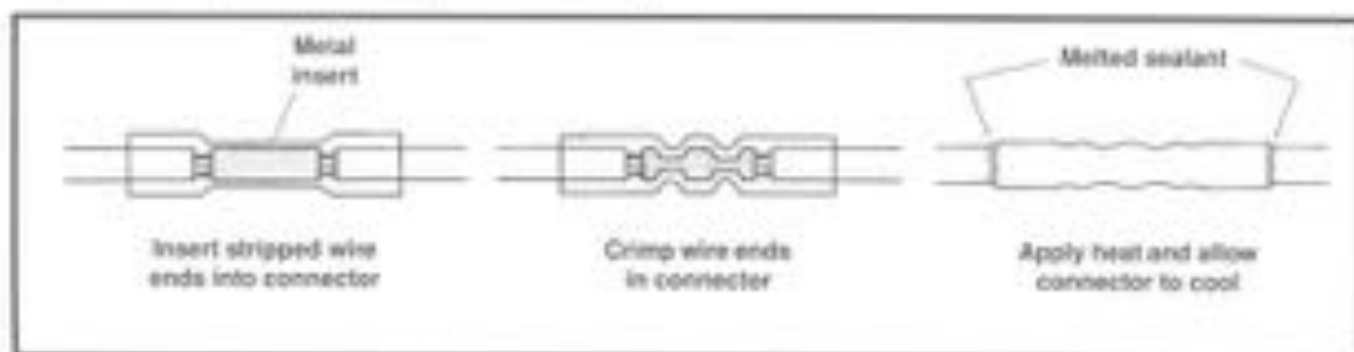

Figure 7-108 Installing Sealed Butt Connectors
2. Insert wires into opposite ends of the butt splice connector (see Figure 7-108). Feed the wires into the connector until the stripped ends are housed within the metal insert. Since the size of the connectors vary with the gauge of the wire, reference the following table to ensure properly sealed splices.
4. Using the UltraTorch UT-100 (HD-32963), Robnar Heat Gun (HD-25076) with heatshrink attachment (HD-41163) or other suitable radiant heating device, heat the crimped splice to encapsulate the butt splice connector. Apply heat from the center of the crimp out to each end until the meltable sealant extrudes out both ends of the connector (see Figure 7-108).